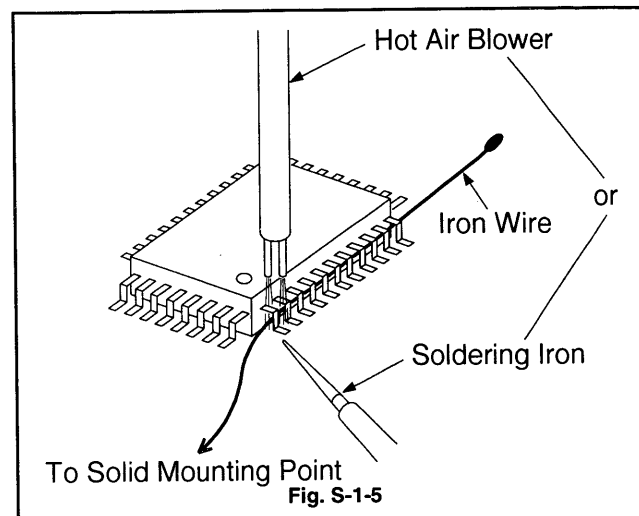

Fig. S-1-5
- (2) Affix the wire to a workbench or solid mounting point, as shown in Fig. S-1-5.
- (3) While heating the pins using a fine tip soldering iron or hot air blower, pull up the wire as the solder melts so as to lift the IC leads from the CBA contact pads as shown in Fig. S-1-5.
- (4) Bottom of the flat pack-IC is fixed with glue to the CBA, when removing entire flat pack-IC. First apply